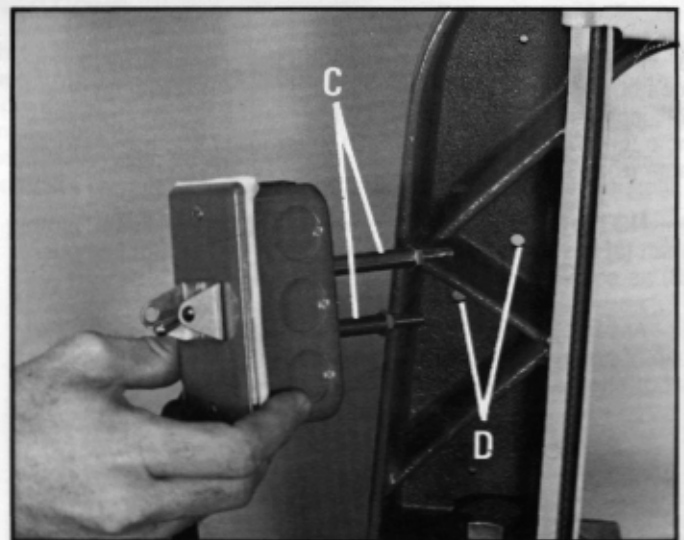

Fig. 11
3. Insert the two screws (C) Fig. 11, located on back of switch box, into the two holes (D) located in the band saw arm.